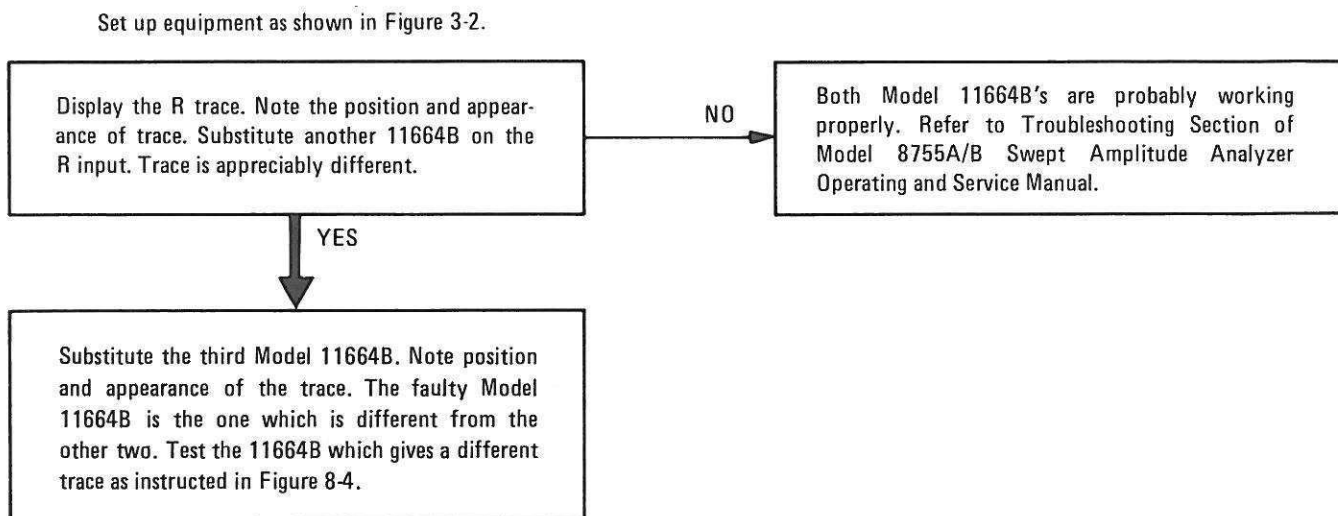

Figure 8-3. Preliminary Troubleshooting
- a. Isolate the trouble to either the Detector or the Model 8755A/B using the procedures in Figure 8-3.